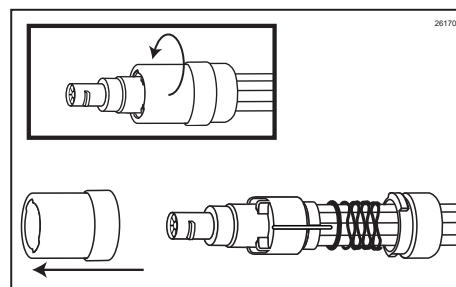

Figure 55
3. Remove the Coupler Body by rotating and unlocking it from the Coupler Base. (See Figure 55.)